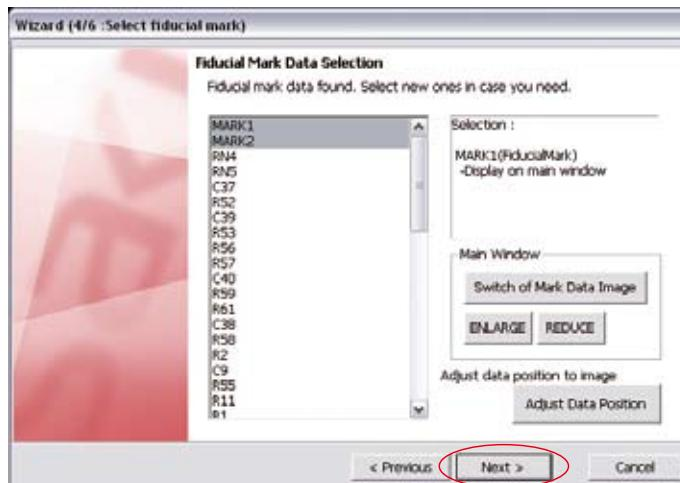
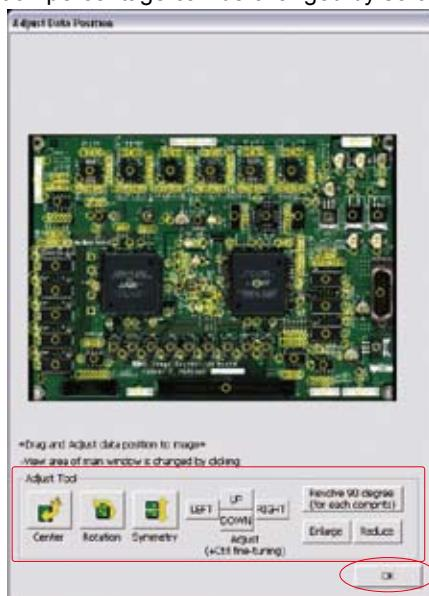

Figure 1-6 Wizard 4
Figure 1-7 Adjust Data Position
Step11: Press **Adjust Data Position** in Figure 1-6, the window shown in Figure 1-7 appears. Press **Adjust Tool** to match the position of component data and the image. After all the adjustments are completed, press **OK**.